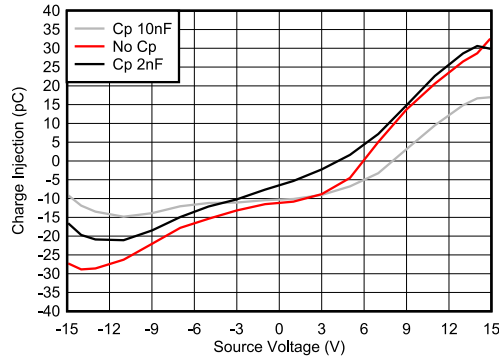

Figure 8-2. Charge Injection Compensation
The TMUX7234 contains specialized architecture to reduce charge injection on the drain (D). To further reduce charge injection in a sensitive application, a compensation capacitor (C_p) can be added on the source (Sx). This will ensure that excess charge from the switch transition will be pushed into the compensation capacitor on the source (Sx) instead of the drain (D). As a general rule of thumb, C_p should be 20x larger than the equivalent load capacitance on the drain (D). Figure 8-2 shows charge injection variation with different compensation capacitors on the Source side. This plot was captured on the TMUX7219 as part of the TMUX72xx family with a 100pF load capacitance.